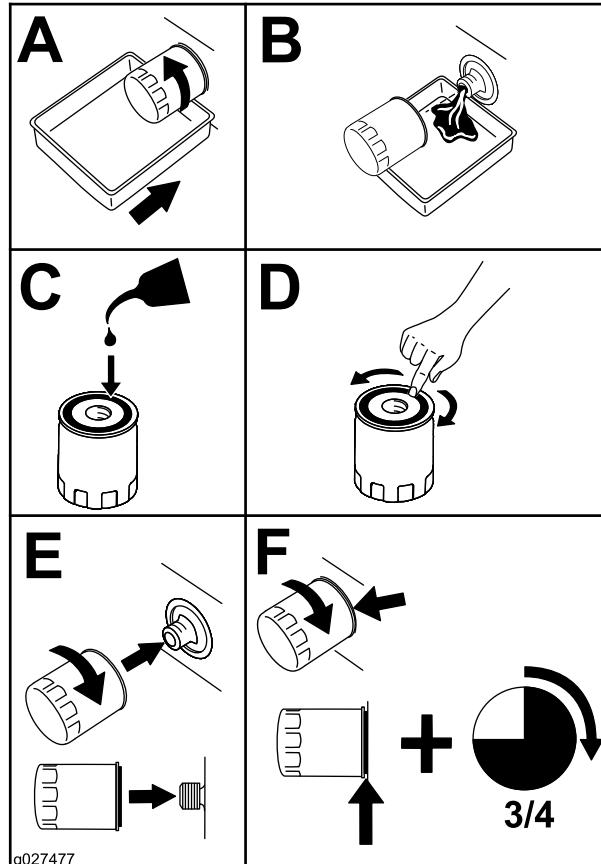

Figure 54
2. Change the engine-oil filter (Figure 54).